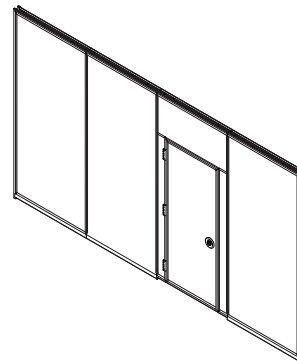

Fig. 4
**U-Shaped (single style), Fig. 4:** The pass door has bottom sweep seals. No separate setup or takedown procedure is needed.